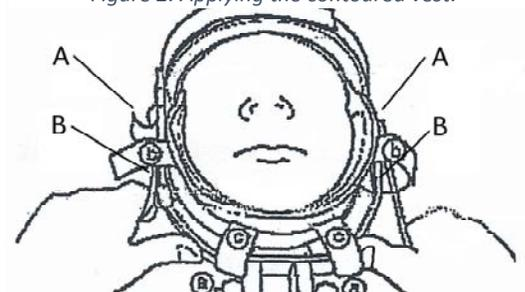

Figure 3: Adjusting the floating chin support.
- To facilitate fitting the facemask, loosen the two bolts on the rotatable connectors. The facemask has a floating chin support which can be adjusted in length by loosening two plastic clips attached to the uprights. The clips are secured by two hook and pile loops (FIGURE 3, Numbered “1”). Remove the loops and undo the plastic clips to allow adjustment to the chin straps. There are also two additional hook and pile loops (FIGURE 3, Numbered “2”) that tether the distal chin strap to the frame. These should also be removed.